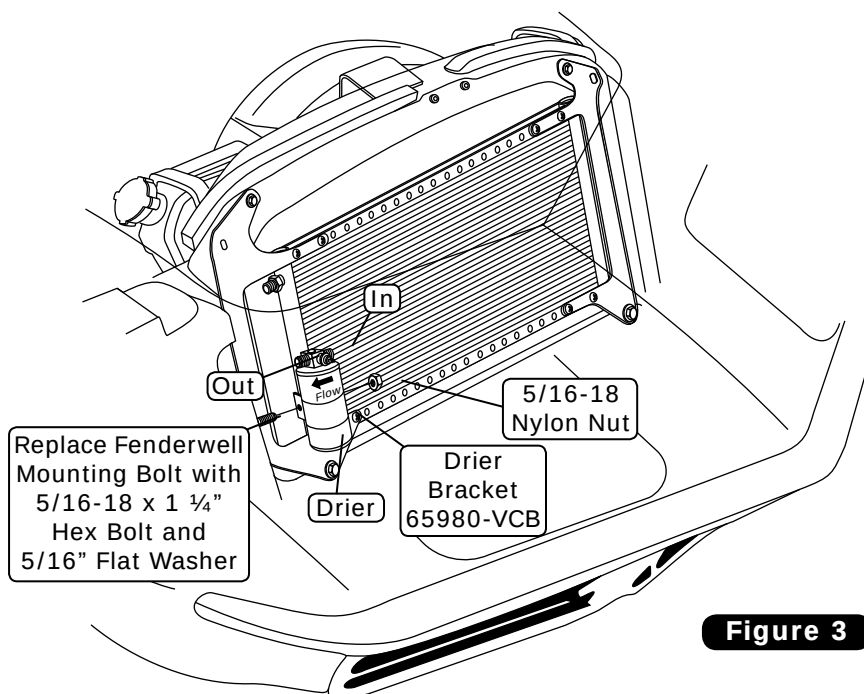

Figure 3
4. Remove the front fenderwell mounting bolt that goes through the core support as shown in Figure 3, below. **NOTE: For ease of removal and installation of the fenderwell mounting bolt, it may be necessary to remove the passenger side front tire.** Replace it with a 5/16-18 x 1 1/4" hex bolt and 5/16" flat washer.
5. Install the drier onto the 5/16-18 x 1 1/4" hex bolt, and secure it using a 5/16-18 nylon nut (See Figure 3, below). **NOTE: Refrigerant flow through the drier is IN from condenser, OUT to evaporator. Do not fully tighten the drier bracket nut at this time. Hand tighten only.**
6. Lubricate and install (2) #6 O-rings onto the #6 condenser/drier hardline (See Lubricating O-rings, Page 6). Install the hardline onto the #6 fitting of the condenser and then onto the drier (See Photo 4, below).